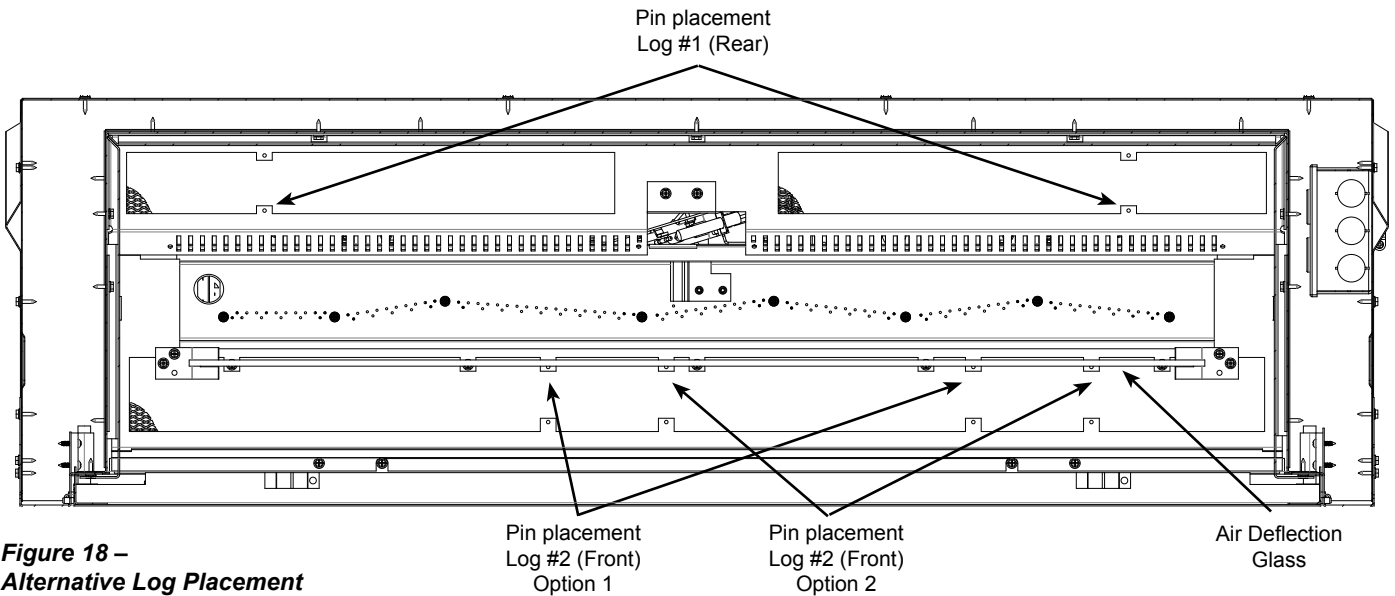

Figure 18—
NOTE: Prior to installing the log set, you must first install the pin brackets on the burner. Fireglass and the air deflection glass should only be installed *after* the pin brackets are in place. The logs must then be placed in the unit after the fireglass and air deflection glass. If the optional logs are added after the air deflection glass and fireglass are in use, move the fireglass away from the areas in *Figure 18* and
1. Mount the four log support pin brackets using mounting holes and screws provided in locations indicated in *Figure 18*. Note that the front log can be mounted in two different positions. The pin brackets can be moved to accommodate the preferred log placement.
2. Place the large rear log (#1) by aligning the holes in the bottom of the log with the two pins at the back of the burner. *Figure 18*.